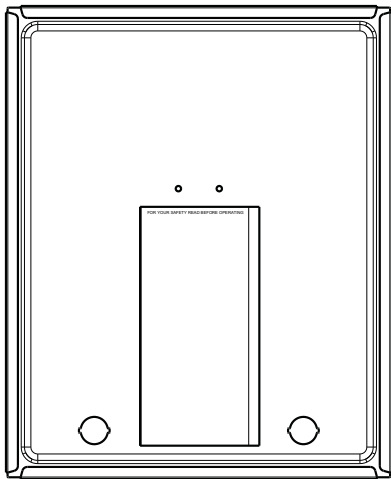

Fig. 30 – Information Booklet Location
4. Remove one of the unused rubber plugs in the port on the collector box opposite the condensate trap. See Fig 30.
NOTE: Record the LED status code BEFORE removing the blower access door or turning off 115-v power to the furnace. See the information booklet inside the main furnace door for a service code legend. See Fig. 30.